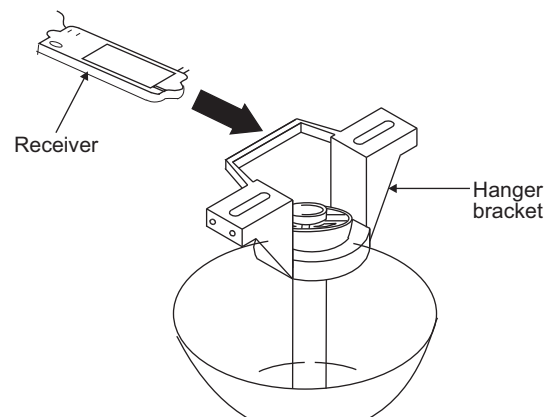

Figure 11
**Step 1.** (Fig. 11) Insert the receiver into the mounting bracket with the flat side of the receiver facing the ceiling.